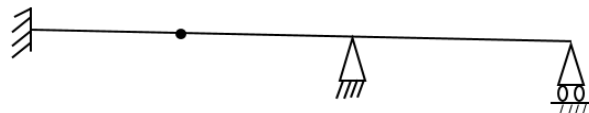
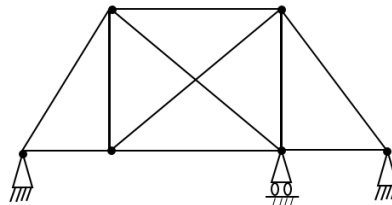
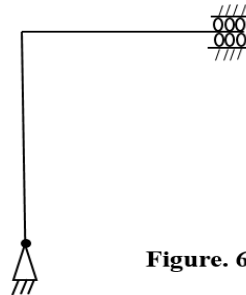

Figure. 4- Discard axial forces
Figure. 5
Figure. 6
- 3 a) Find the Kinematic indeterminacy and Static indeterminacy of the continuous beam (Figure.4) , pin jointed frame (Figure.5) and rigid frame (Figure.6)